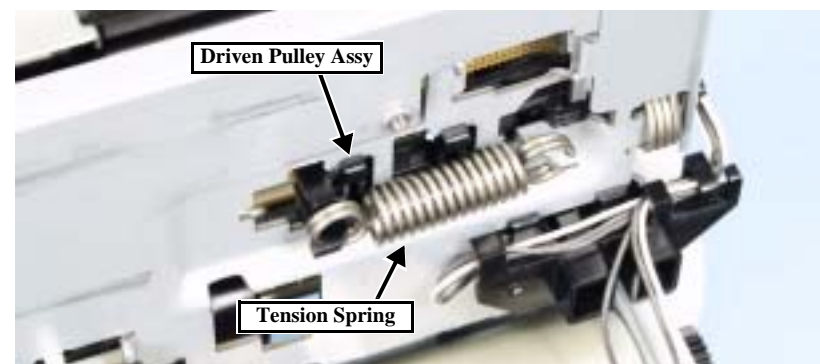

Figure 4-67. Removing the Tension Spring
5. At the rear of the printer, remove the tension spring of the Driven Pulley Assy. (Fig. 4-67)